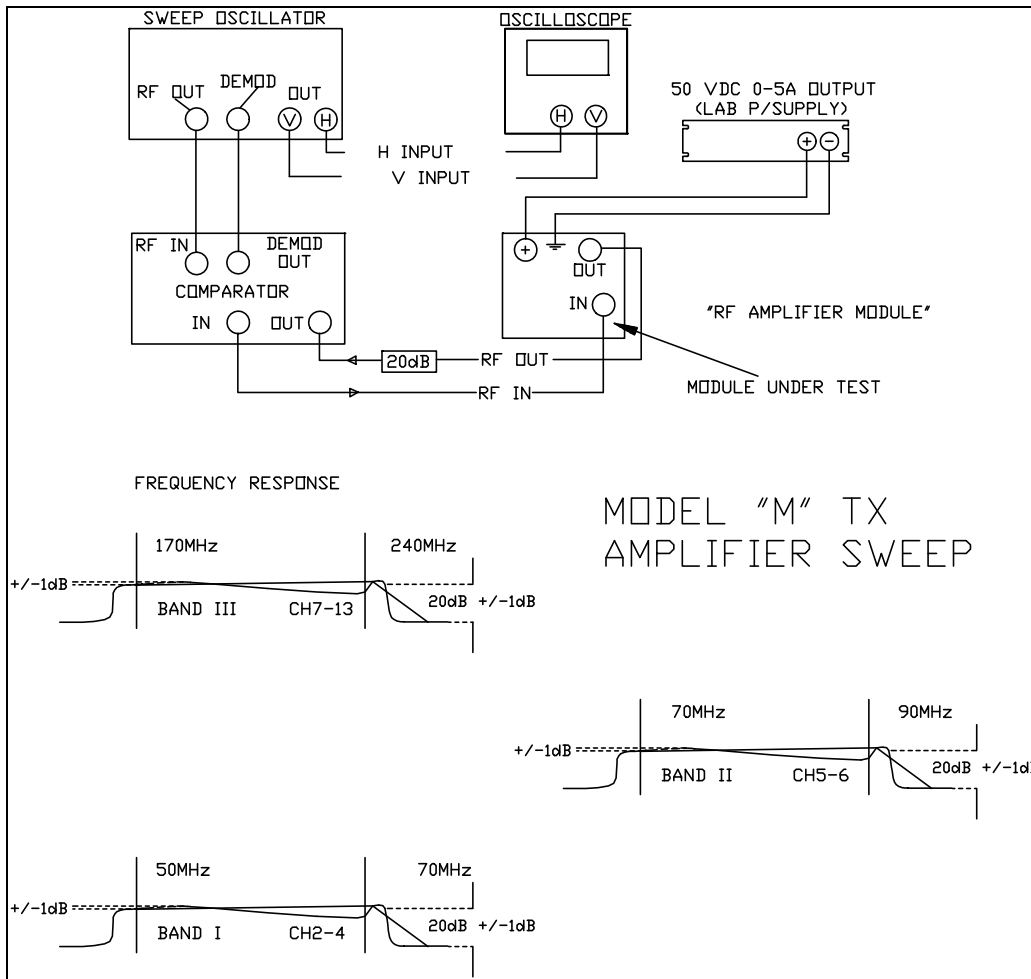

Figure 1 Module sweep Setup
- Connect the module to a sweep system, typically as shown in Figure 1. The sweep generator should be adjusted to give a linear sweep from about 45 to 75 MHz, or from 65 to 95 MHz, to sweep the part of Low Band that the module is intended for, with a small amount of out-of-band signal on both ends. Ensure that a coaxial 20 dB attenuator pad is connected to the RF output of the amplifier, in order to prevent possible damage to the sweep comparator.
- The swept in-band frequency response, for Low Band modules, should be essentially flat within \pm 1 dB as shown in Figure 1, with gain approximately 20 \pm 1 dB.